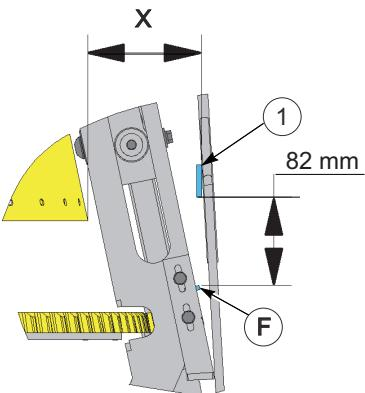
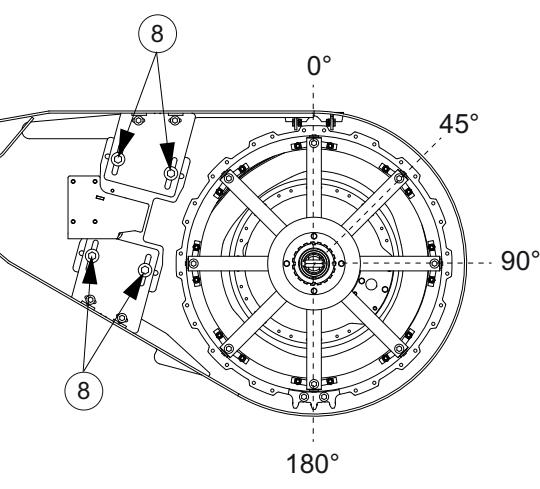
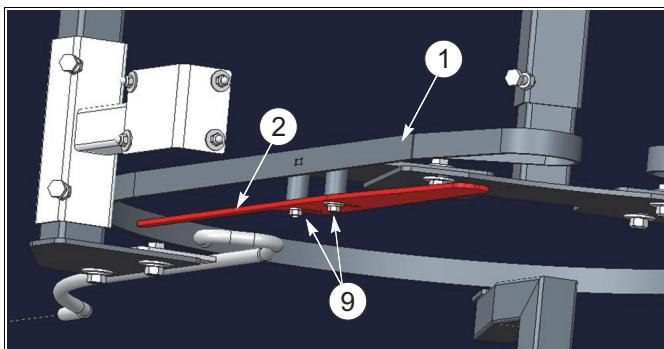
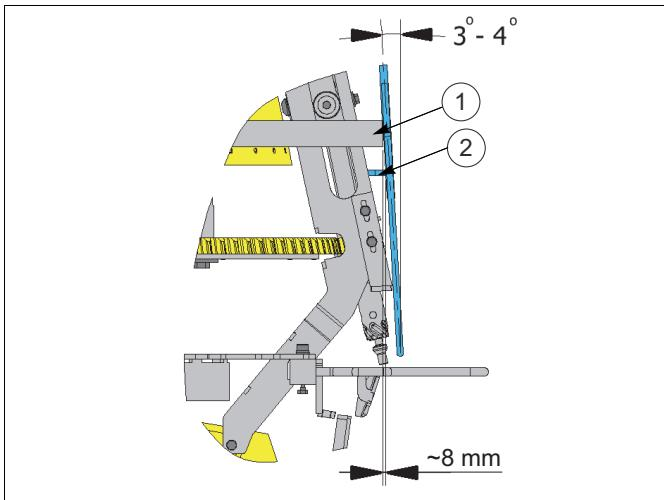

fig. 34 Vertical setting of the inside guide
fig. 35 Inside guide position
fig. 36 Lower inside guide radial settings
fig. 37 Lower inside guide (below infeed guide)
See fig. 34.
See fig. 34, fig. 35 and tab. 8.
1. Ensure the tip of the lower inside guide **2** is at the 0° point of the cam (see fig. 35).
See fig. 35, fig. 36 and fig. 37.